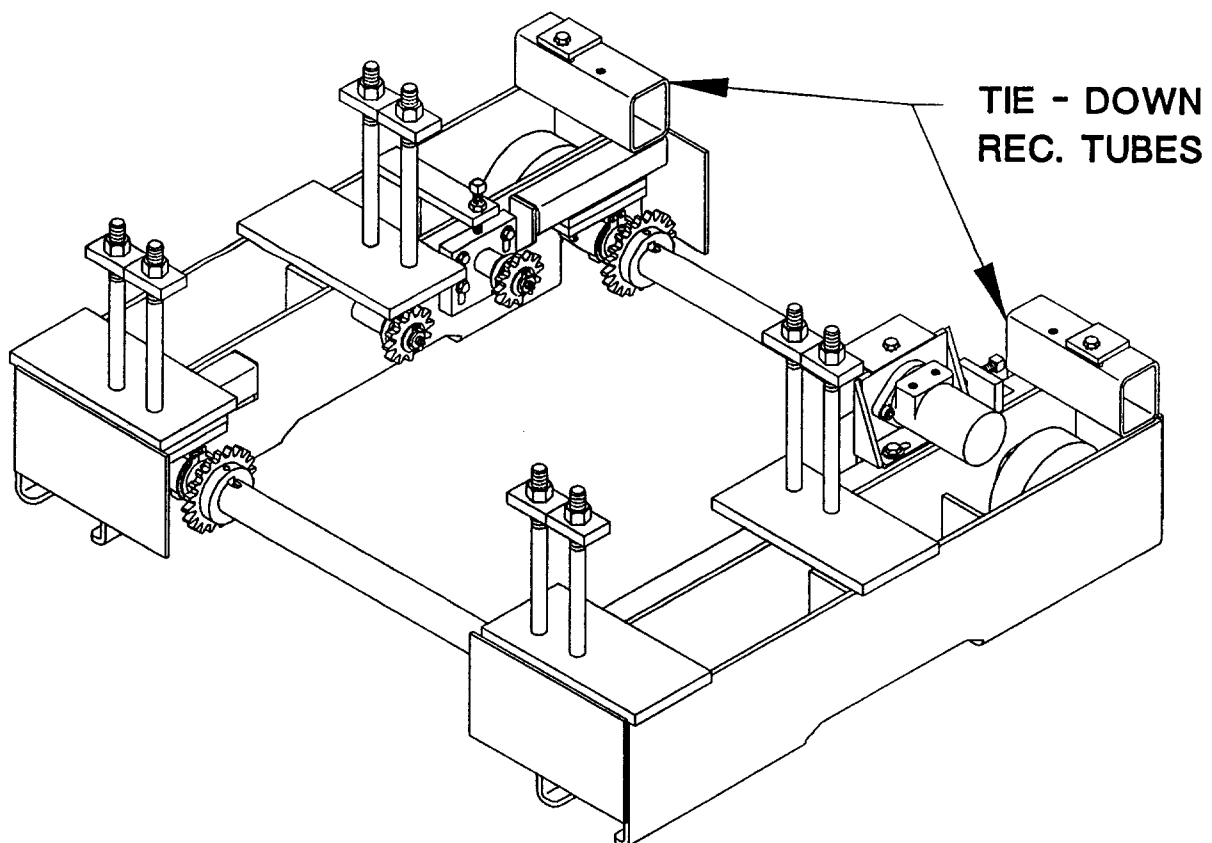

Figure 3-5
5. Crane transport tie-down means are required. These can be load binders or chains. As shown in Figure 3-5 a section of rec. tube is welded to both sides of the rolling base. At the transport position a length of chain can be passed through these tubes and used to secure the crane in position.